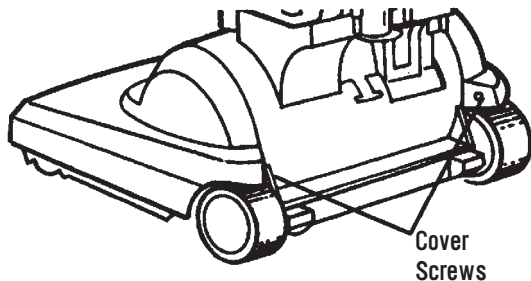

Figure 20a
1. Unscrew the screws located on the rear of the Base Cover. (See Figure 20a.)